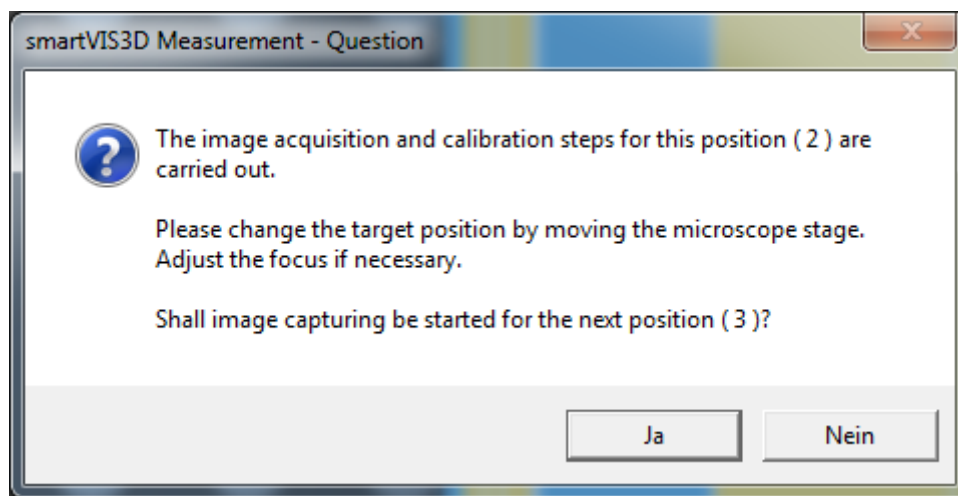

FIGURE 34: SIXTH INSTRUCTION DIALOG OF THE CALIBRATION PROCEDURE
- d. Again if the calibration procedure was successful red crosses will appear in the center of the circles. After the second series of measurements is completed the dialog shown in Figure 34 will be automatically opened. In this dialog you will be notified that the second measurement series is completed. Additionally you will be asked again to change target’s position using the x-y hand wheels of the microscopic stage to proceed with the third and last series of calibration measurements. Make sure again that conditions 8a and 8b are satisfied